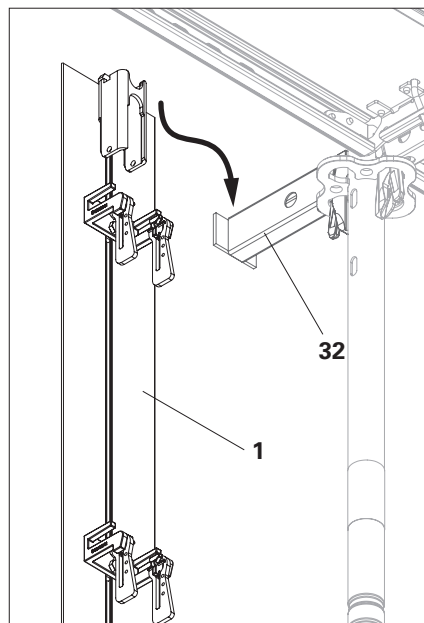
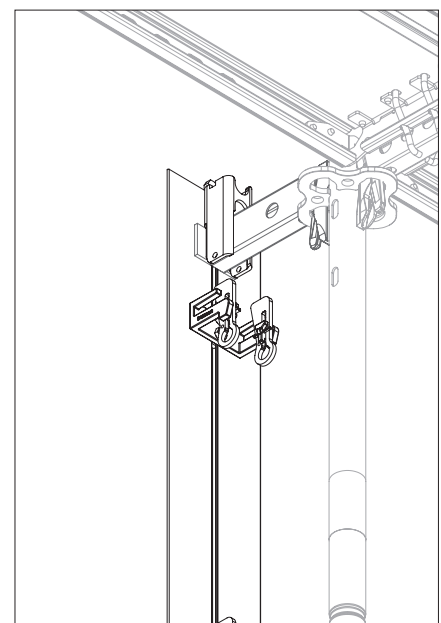

Fig. C1.02a
Fig. C1.02b
1. Insert Support Rail CVR 200 (**1**) from above (Fig. C1.02a) into Supports UC 25 (**32 + 32a**) and set to stop at upper support (**32**). (Fig. C1.02b) The lower Support UC25 (**32b**) should be not be in contact with the support point of the rail.